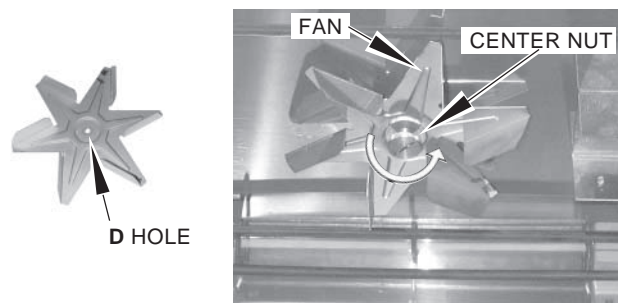

Fig. 42
- After cleaning, reinstall fan blade by mating D-shaped fan onto D-shaped shaft and then tightening center nut counterclockwise (Fig. 42).